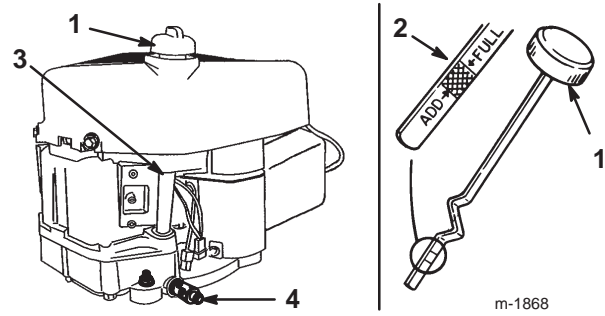

Figure 18
7. Clean around the oil dipstick (Fig. 18) so that dirt cannot fall into the filler hole and damage the engine.
8. Unscrew the oil dipstick and wipe the metal end clean (Fig. 18).
9. Screw the oil dipstick fully onto the filler tube (Fig. 18).
13. Clean around the oil dipstick and unscrew the cap (Fig. 18).
14. Slowly pour approximately 80% of the engine oil into the filler tube (Fig. 18). Refer to Servicing the Engine Oil on page 24.